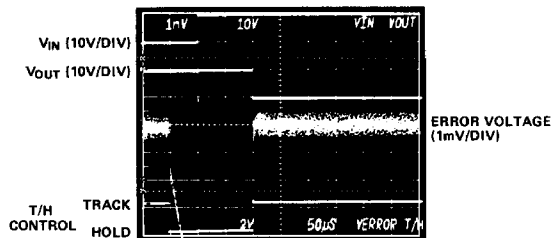

Figure 1a. Acquisition Time after $100\mu\text{s}$ in the Hold Mode. The AD389 shows No "Thermal Tail."
6. Clever circuit design eliminates any measurable thermal tail (see Figures 1a and 1b).